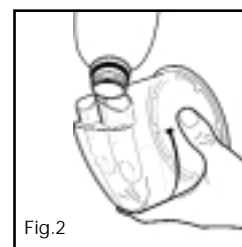

Fig.2
5. Fill the chamber up to the water filling line with water (Fig.2)